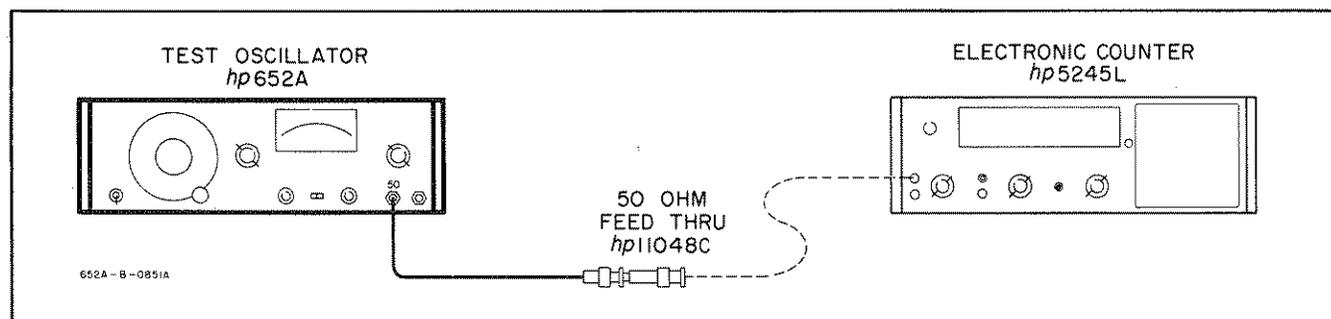

Figure 5-1. Frequency Tests.
a. Connect 652A 50 ohm output to dc input of electronic counter as shown in Figure 5-1.